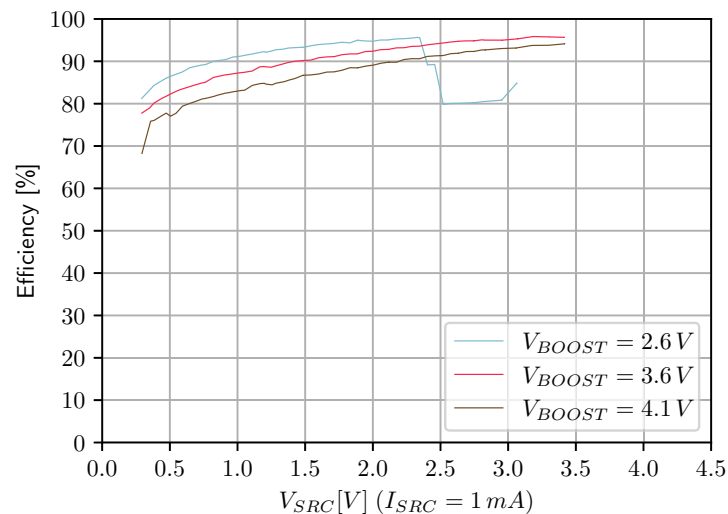

Figure 11: Boost efficiency for $I_{SRC} = 1$ mA ($L_{BOOST} = 22$ μ H)
- **VBOOST**: measure the current and the voltage. Repeat the measurement a copious number of times to be sure to capture the current peaks. Figure 11 has been obtained by averaging over 100 measurements configured with a 100 ms integration time.